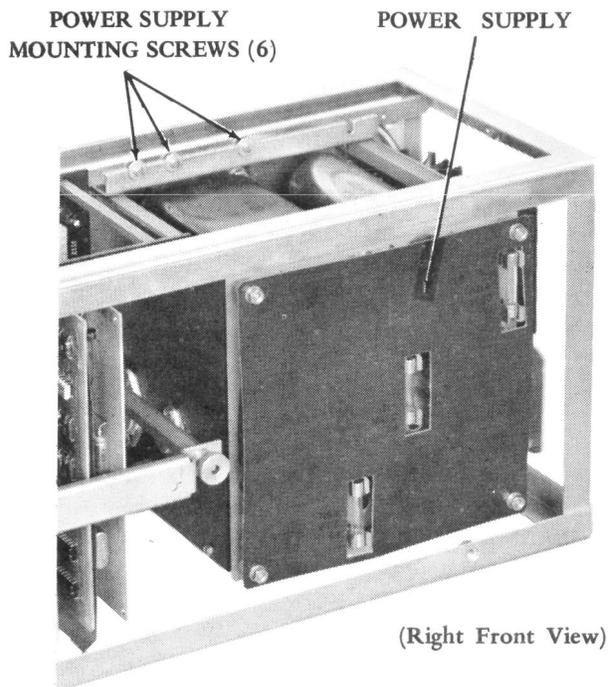

Figure 11 - Electronics Module With Power Supply
- (1) Remove electronic module from cabinet.
- (2) Disconnect power connections at terminal block TB1 (early design) or remove connector P102 from J101 (late design). Remove connector P101 from J101 on rear of power supply.
- (3) Rotate electronics module so that the power supply fuses are up, then remove six each mounting screws (TP151685), lockwashers (TP110743), and flat washers (TP125011) (Figure 11). Raise supply vertically to remove.